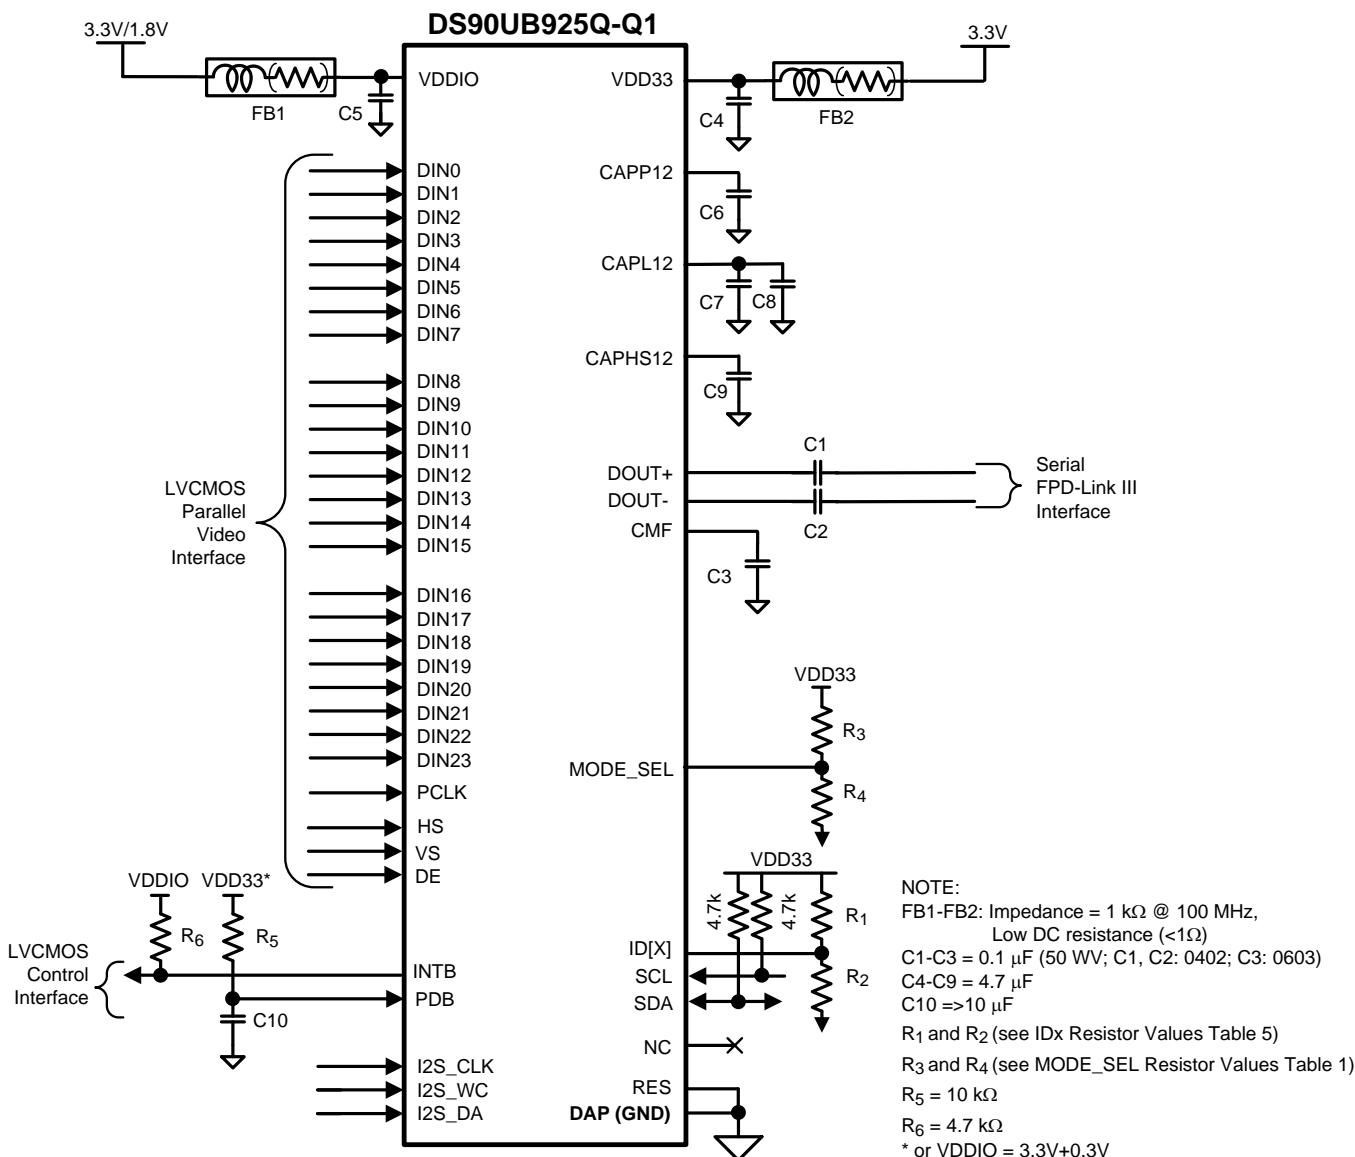

Figure 23. Typical Connection Diagram
Figure 23 shows a typical application of the DS90UB925Q-Q1 serializer for an 85 MHz 24-bit Color Display Application. The camera application has the same recommended connections. The CML outputs must have an external 0.1 μ F AC coupling capacitor on the high speed serial lines. The serializer has an internal termination. Bypass capacitors are placed near the power supply pins. At a minimum, six (6) 4.7 μ F capacitors and two (2) additional 1 μ F capacitors should be used for local device bypassing. Ferrite beads are placed on the two (2) VDDs (V_{DD33} and V_{DDIO}) for effective noise suppression. The interface to the graphics source is with 3.3V LVC MOS levels, thus the V_{DDIO} pin is connected to the 3.3 V rail. A RC delay is placed on the PDB signal to delay the enabling of the device until power is stable.